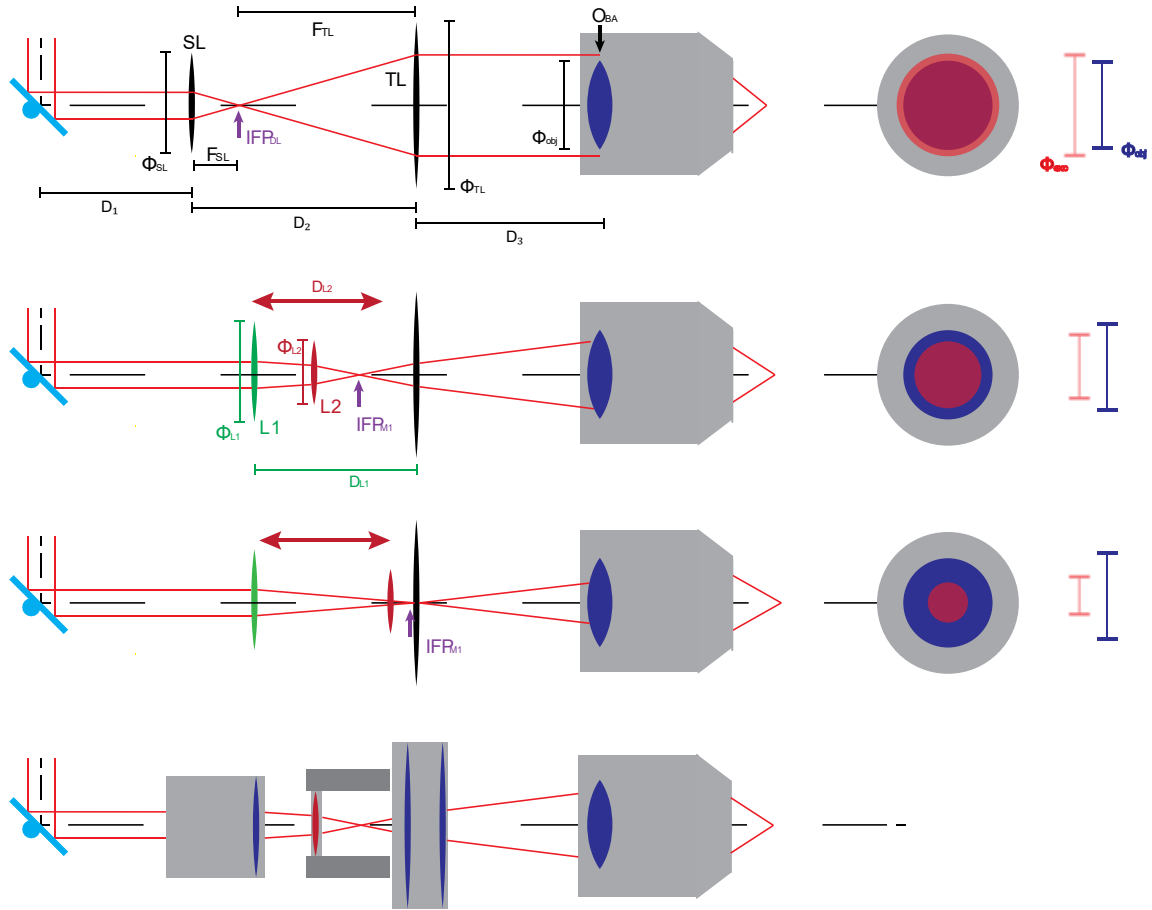

Figure 5
1. For “Divergent Beam Optics modification 1” (DBO₁), the goal is to move the IFP closer to the TL, yet without passing it, while simultaneously underfilling O_{BA} (Fig. 5).